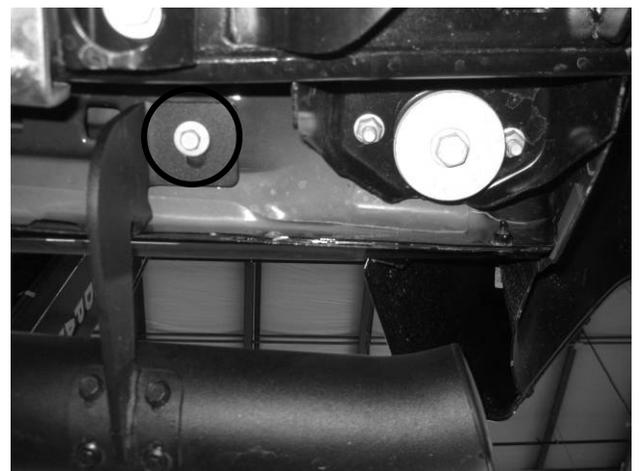
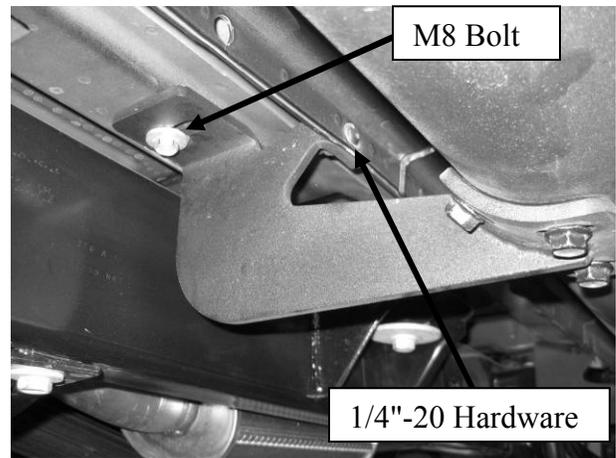
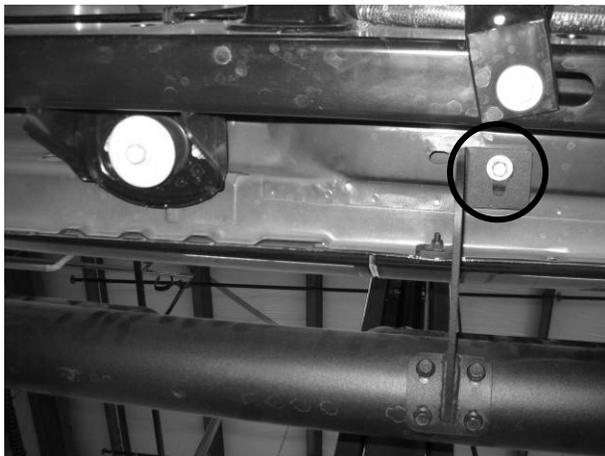
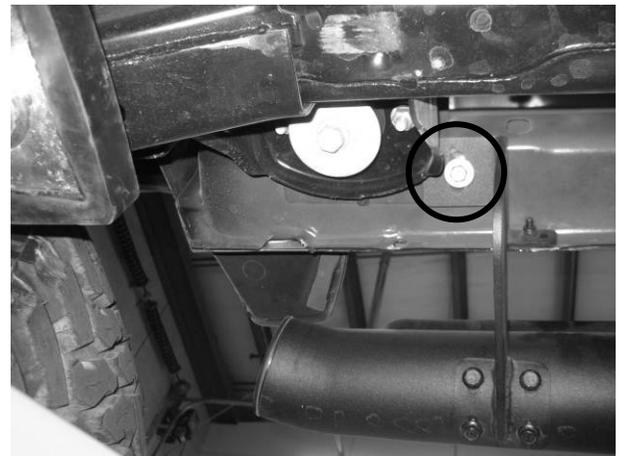

Figure 1
Figure 2
Figure 3
Figure 4
3. Install front bracket in front location. (Figure 1) Use M8 Hex Bolt and 1/4"-20 hardware to mount bracket, (Figure 2) leave loose.
4. Install middle bracket in middle location. (Figure 3) Use M8 Hex Bolt and 1/4"-20 hardware to mount bracket, (Figure 2) leave loose.
5. Install rear bracket in rear location. (Figure 4) Use M8 Hex Bolt and 1/4"-20 hardware to mount bracket, (Figure 2) leave loose.